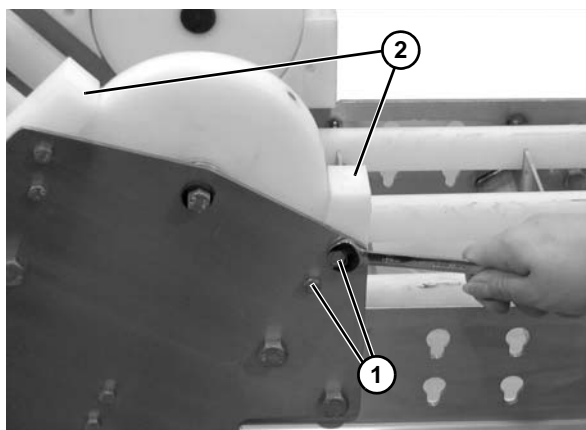

Figure 57
2. Remove two cap screws (**Figure 57, item 1**) on each side of the knuckle and remove the hold down roller guards (**Figure 57, item 2**). Repeat on opposite side of the conveyor.